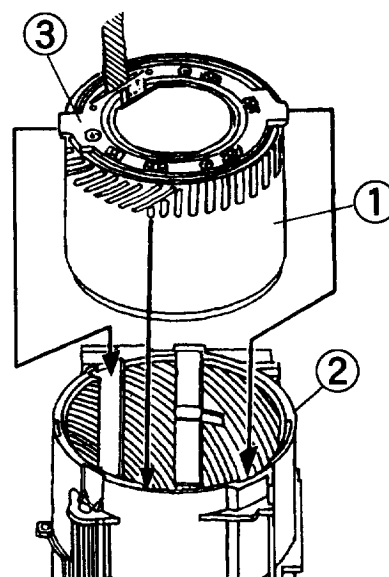

Fig27
- (20) Set the HELLICOID FRAME UNIT (①) into the HELLICOID SUB UNIT (②) as shown in Fig.27.